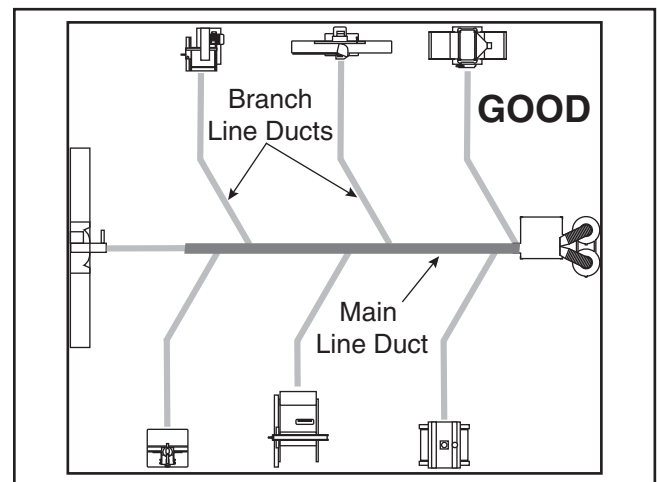

Figure 14. Good duct layout.
2. Ideally, you should design the duct system to have the shortest possible main line and secondary branch ducts. See **Figures 14 & 15** for ideas of good duct layouts vs. bad duct layouts.